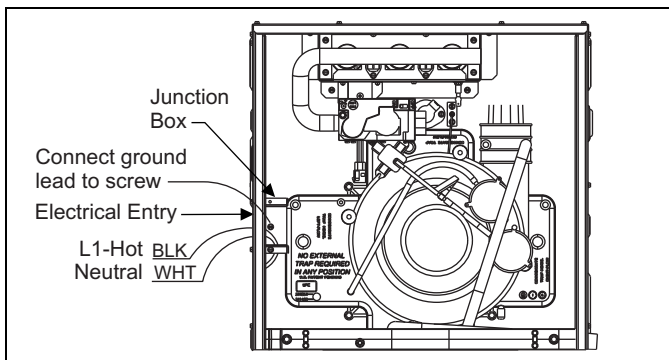

Figure 13: Electrical wiring
2. Remove the screws retaining the wiring box cover. Route the power wiring through the opening in the unit into the junction box with a conduit connector or other proper connection. In the junction box there will be 3 wires, a Black Wire, a White Wire. Connect the power supply as shown on the unit-wiring label on the inside of the blower compartment door or the wiring schematic in this section. The black furnace lead must be connected to the L1 (hot) wire from the power supply. The white furnace screw must be connected to neutral. Connect the power supply ground to the green screw (equipment ground) An alternate wiring method is to use a field provided 2 in. (5.1 cm) x 4 in. (10.2 cm) box and cover on the outside of the furnace. Route the furnace leads into the box using a protective bushing where the wires pass through the furnace panel. After making the wiring connections replace the wiring box cover and screws. See Figure 13.
3. The furnace's control system requires correct polarity of the power supply and a proper ground connection. See Figure 13.